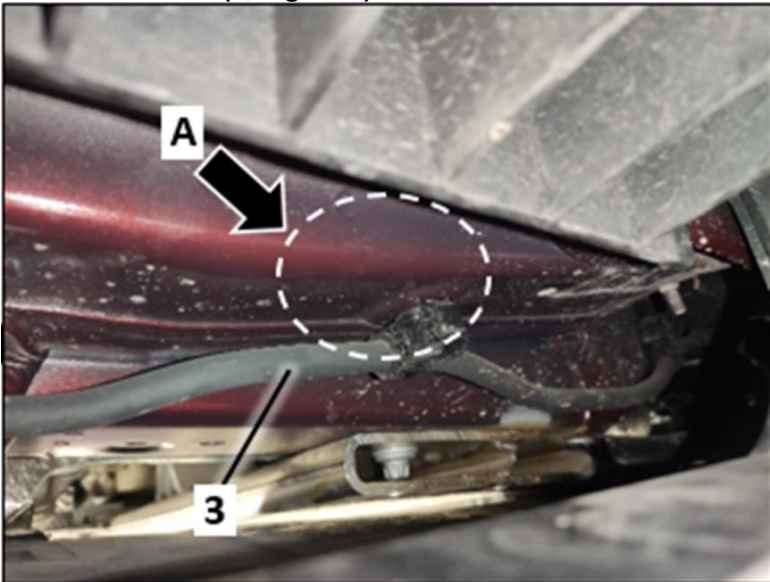

Figure 2
2. Check longitudinal member in the marked area (**arrow A, Figure 2**) for surface damage.
**i** Press line (**3, Figure 2**) installed in area to one side, unclip if necessary.